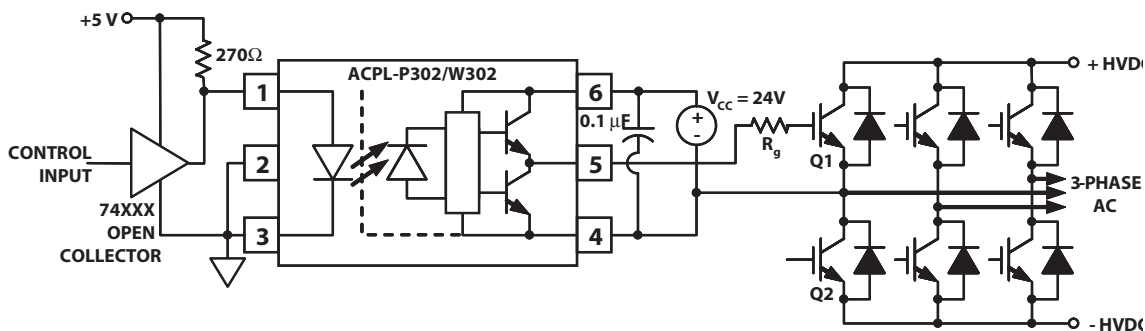
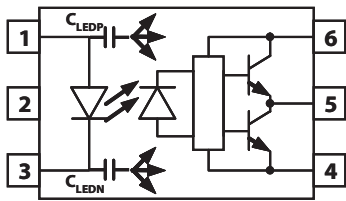
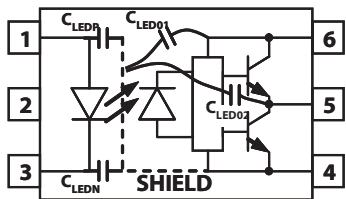
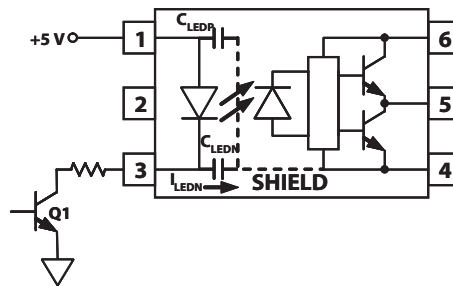

Figure 17. Recommended LED Drive and Application Circuit for ACPL-P302/W302
Figure 19. Optocoupler Input to Output Capacitance Model for Unshielded Optocouplers.
Figure 20. Optocoupler Input to Output Capacitance Model for Shielded Optocouplers.
Figure 22. Not Recommended Open Collector Drive Circuit.
To keep the IGBT firmly off, the ACPL-P302/W302 has a very low maximum  $V_{OL}$  specification of 1.0 V. Minimizing  $R_g$  and the lead inductance from the ACPL-P302/W302 to the IGBT gate and emitter (possibly by mounting the ACPL-P302/W302 on a small PC board directly above the IGBT) can eliminate the need for negative IGBT gate drive in many applications as shown in Figure 17. Care should be taken with such a PC board design to avoid routing the IGBT collector or emitter traces close to the ACPL-P302/W302 input as this can result in unwanted coupling of transient signals into the input of ACPL-P302/W302 and degrade performance. (If the IGBT drain must be routed near the ACPL-P302/W302 input, then the LED should be reverse biased when in the off state, to prevent the transient signals coupled from the IGBT drain from turning on the ACPL-P302/W302.
Step 1: Calculate  $R_g$  minimum from the  $I_{OL}$  peak specification. The IGBT and  $R_g$  in Figure 17 can be analyzed as a simple RC circuit with a voltage supplied by the ACPL-P302/W302.
where  $K_{ICC} \cdot Q_g \cdot f$  is the increase in  $I_{CC}$  due to switching and  $K_{ICC}$  is a constant of 0.001 mA/(nC\*kHz). For the circuit in Figure 17 with  $I_F$  (worst case) = 10 mA,  $R_g = 57.5 \Omega$ , Max Duty Cycle = 80%,  $Q_g = 100$  nC,  $f = 20$  kHz and  $T_{AMAX} = 85^\circ\text{C}$ :
Without a detector shield, the dominant cause of optocoupler CMR failure is capacitive coupling from the input side of the optocoupler, through the package, to the detector IC as shown in Figure 19. The ACPL-P302/W302 improves CMR performance by using a detector IC with an optically transparent Faraday shield, which diverts the capacitively coupled current away from the sensitive IC circuitry. However, this shield does not eliminate the capacitive coupling between the LED and optocoupler pins 5-8 as shown in Figure 20. This capacitive coupling causes perturbations in the LED current during common mode transients and becomes the major source of CMR failures for a shielded optocoupler. The main design objective of a high CMR LED drive circuit becomes keeping the LED in the proper state (on or off) during common mode transients. For example, the recommended application circuit (Figure 17), can achieve 10 kV/ $\mu$ s CMR while minimizing component complexity.
The open collector drive circuit, shown in Figure 22, can not keep the LED off during a  $+dV_{CM}/dt$  transient, since all the current flowing through  $C_{LEDN}$  must be supplied by the LED, and it is not recommended for applications requiring ultra high CMRL performance. The alternative drive circuit which like the recommended application circuit (Figure 17), does achieve ultra high CMR performance by shunting the LED in the off state.